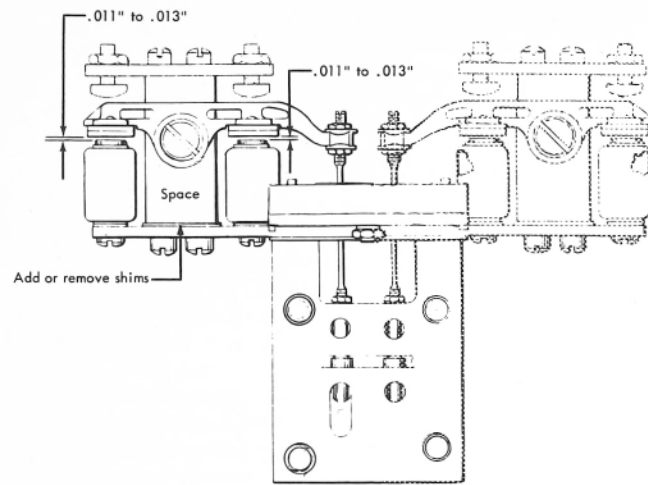

Figure 11. Positioning Space Magnet Armature
4. Add or remove the shims under the pivot support block to obtain .011" to .013" clearance between the start and stop magnet cores and the armature (Figure 11). The nominal clearance between the armature and the magnets when in the neutral (de-energized) position is 0.011" to 0.013". Some spool valve units have a 0.011" to 0.014" clearance which is correct. The spool valve adjustments are not critical. Normally, this adjustment will have to be changed only if related parts have been replaced.